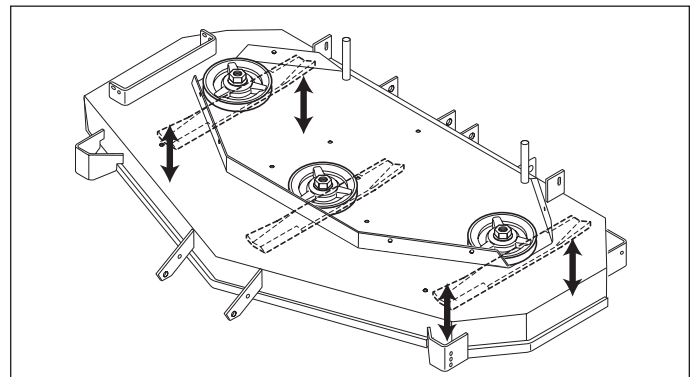

Figure 12. Checking The Blade Height Measurement
9. **For your safety, DO NOT handle mower blades with bare hands.** Position the outside mower blades so that they face front-to-back (Figure 12).